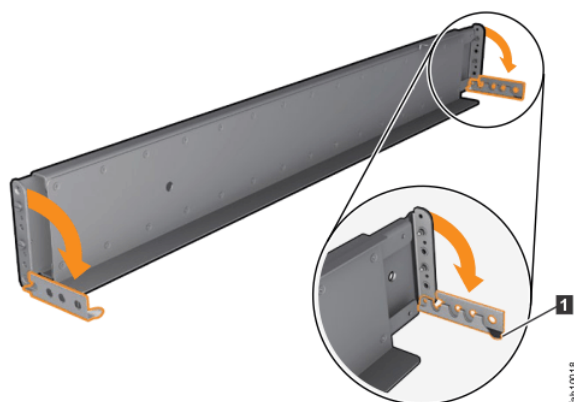

Figure 124. Opening the hinge brackets
6. At each end of the rail, grasp the tab **1** and pull *firmly* to open the hinge bracket (see Figure 124 on page 161).